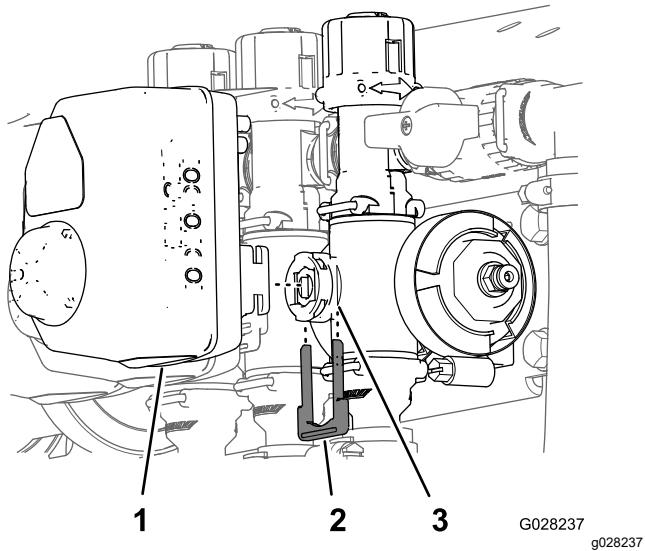

Figure 13
1. Remove the retainer that secures the actuator to the manifold valve for the section valve or agitation valve (Figure 13).
- 8. Install the actuators removed in Figure 13 to the manifold valve using the previously-removed retainers.